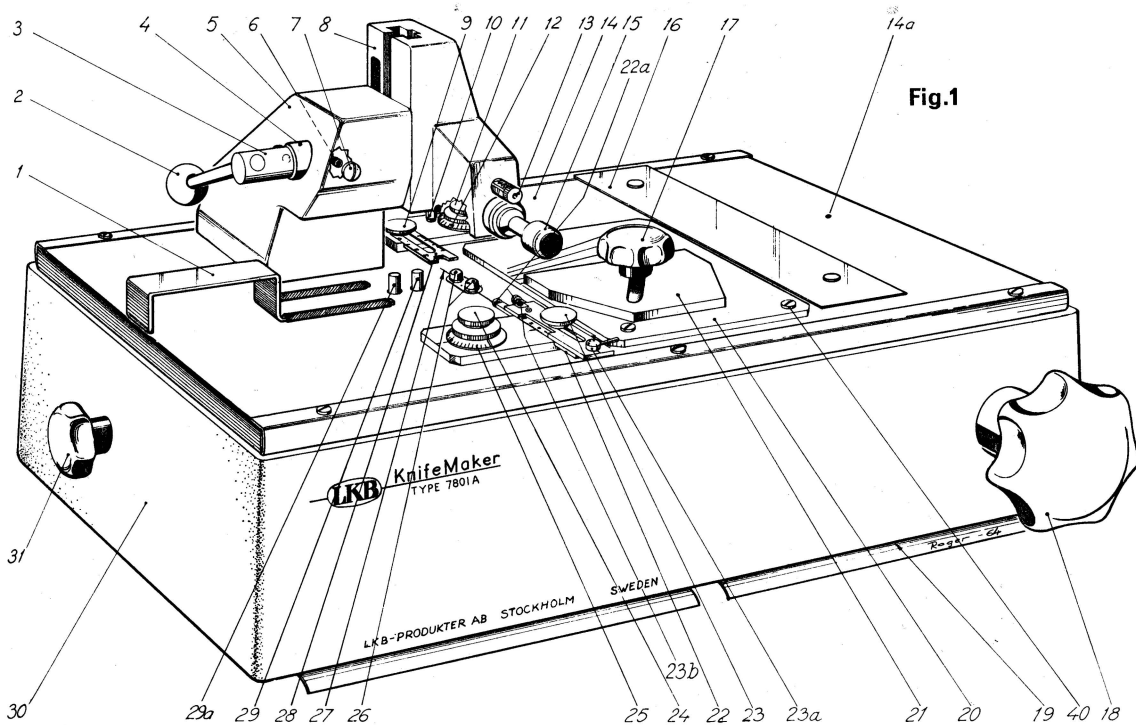

Fig. 1
4. Check that disengage knob (31), (see fig. 1) is fully pushed in.
5. Push rear glass holder (28) against glass square.
6. Turn knob (31) slowly backwards and pull it outwards to stop.
7. Push rear glass holder (28) two scale divisions towards glass square. Then lock holder with screw (9).
8. Push in disengage knob (31). Glass holder (28) will then press against glass square.
10. Support scoring shaft with the right hand while moving lever (2) to its starting position.
12. Turn disengage knob (31) backwards, see fig. 1, and pull it outwards to stop.
1. Remove locking knob (17), guide plate (21), screws (40) and angle setting plate (20), see fig. 1.
5. Replace guide plate (21) and knob (17).